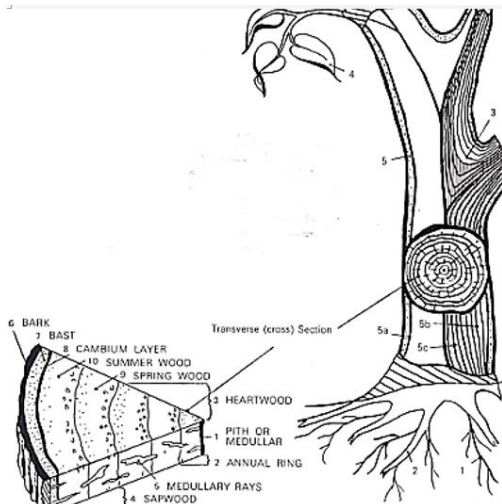

Fig. 1.1: Longitudinal section
Typically, Food in the ground needed by the tree is soaked up by moisture in the earth. The fine root hairs (1) of the tree pick up this moisture. It is passed to the main roots (2) where it is made into crude (raw) sap. The crude sap climbs up the tree through the sapwood (3) and out to the leaves (4). Here, the green matter called chlorophyll, together with sunlight and with carbon dioxide from the air, change it into elaborated sap. Elaborated sap now passes down the tree through the bast (5) and into the tree along the medullary rays to 5a The Cambium Layer to grow. 5b The Sapwood to mature. 5c The Heartwood to store. Stored sap in the heartwood will be used by the tree to start a new growth next spring (fig.1.1).